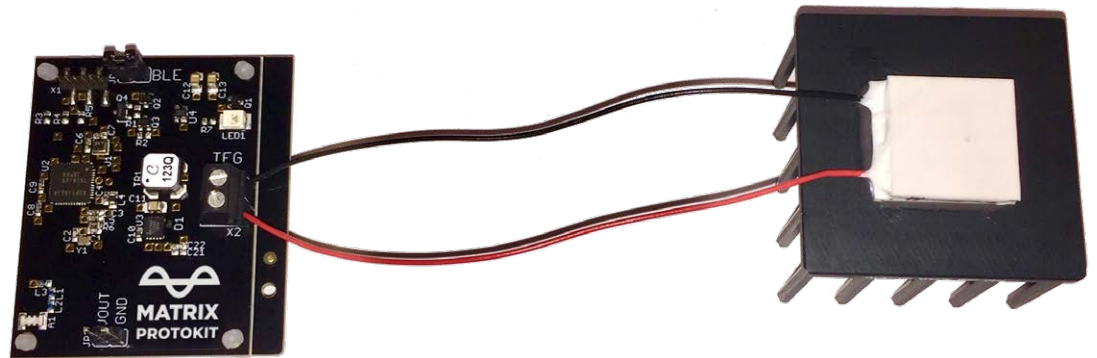

Figure 2: MCRY-PROTOKit with MATRIX Gemini TEG
5. The screens show the VOC (VTEG), and the power output can be calculated using: $POUT = \text{efficiency} * VOC^2 / (4 * RTEG)$. RTEG is 12Ω and the efficiency can be looked up from the Mercury datasheet (Figure 2). If the Seebeck coefficient STEG of the TEG module is known, the VOC can also be used to estimate the temperature difference across the TEG using $dT = VOC / STEG$.